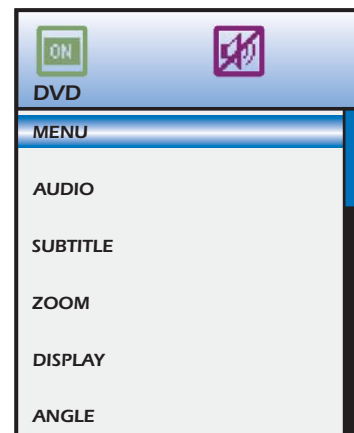

Figure 38
2. **Press the Click Button to select the Source.** The Zone will turn ON. The Source selected will be displayed at the top of the LCD. (Refer to **Figure 38**)
1. Press the **Volume Knob** to **mute** the zone preamp or local speakers controlled with Speaker Relay Mutes. A purple **MUTE Icon** will appear at the top of the LCD. (Figure 38)
1. From the **MODE Main Menu**, roll the **Scroll Wheel** to **highlight a Source** and then press the **Click Button** to **select the Source**. The selected source name will appear at the top of the LCD. (MODE Free will first display the selected source name and then the current zone name after a few seconds.) Any Virtual Buttons programmed for that source will appear in the LCD. (Refer to Figure 38)